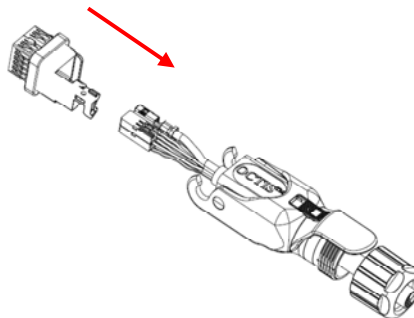

Figure 31
4. Insert the holder kit combo power/signal, as shown in fig 31